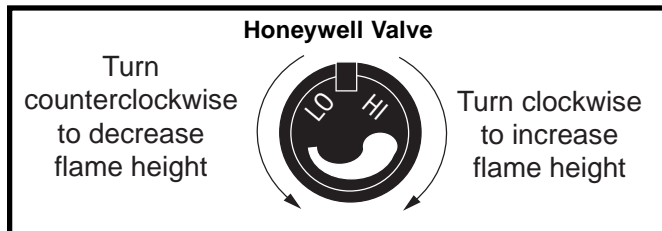

**Fig. 41** 43BDVR log placement.
#### Refer to Figure 41
7. Scatter the ember material over the front area of the burner housing assembly. (Fig. 41) Do not pack this material tightly, separate it when unpacked and keep it in a loose condition.